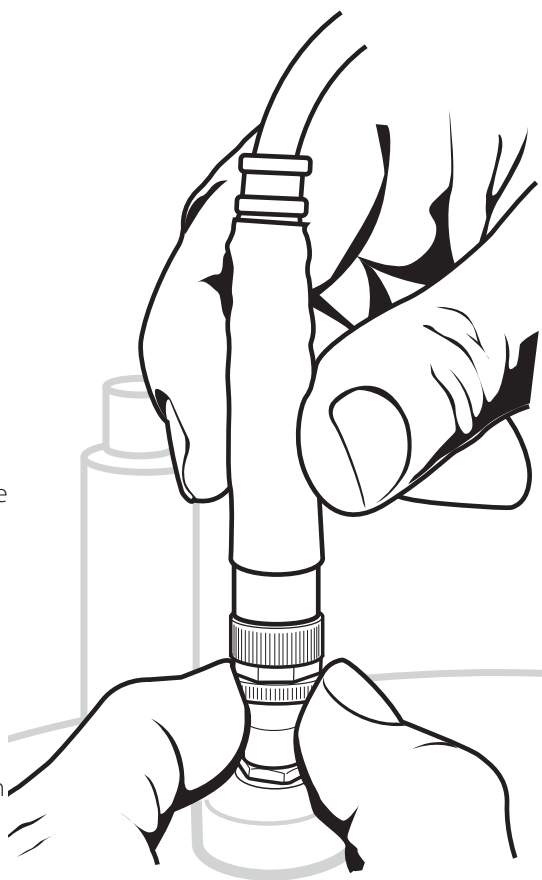

Figure 18
3. Hold the **Power Cable** upright with one hand, with other hand turn outer knurled ring clockwise to thread on the connector (figure 18).